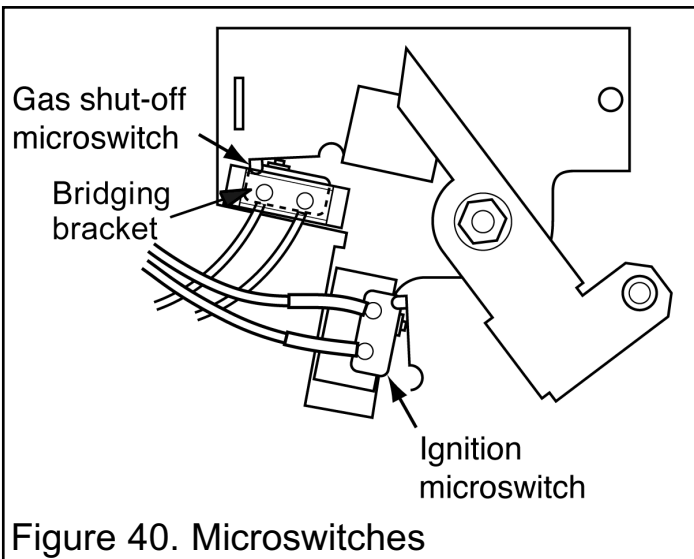

Figure 40. Microswitches
See figure 40.
2. Disconnect the leads from the ignition microswitch (The lower of the two microswitches - See figure 40).
16.3 To remove the gas shut-off microswitch. (See figures 40 & 41).
4. Detach the bridging bracket, microswitch assembly by removing two screws (See figure 40).